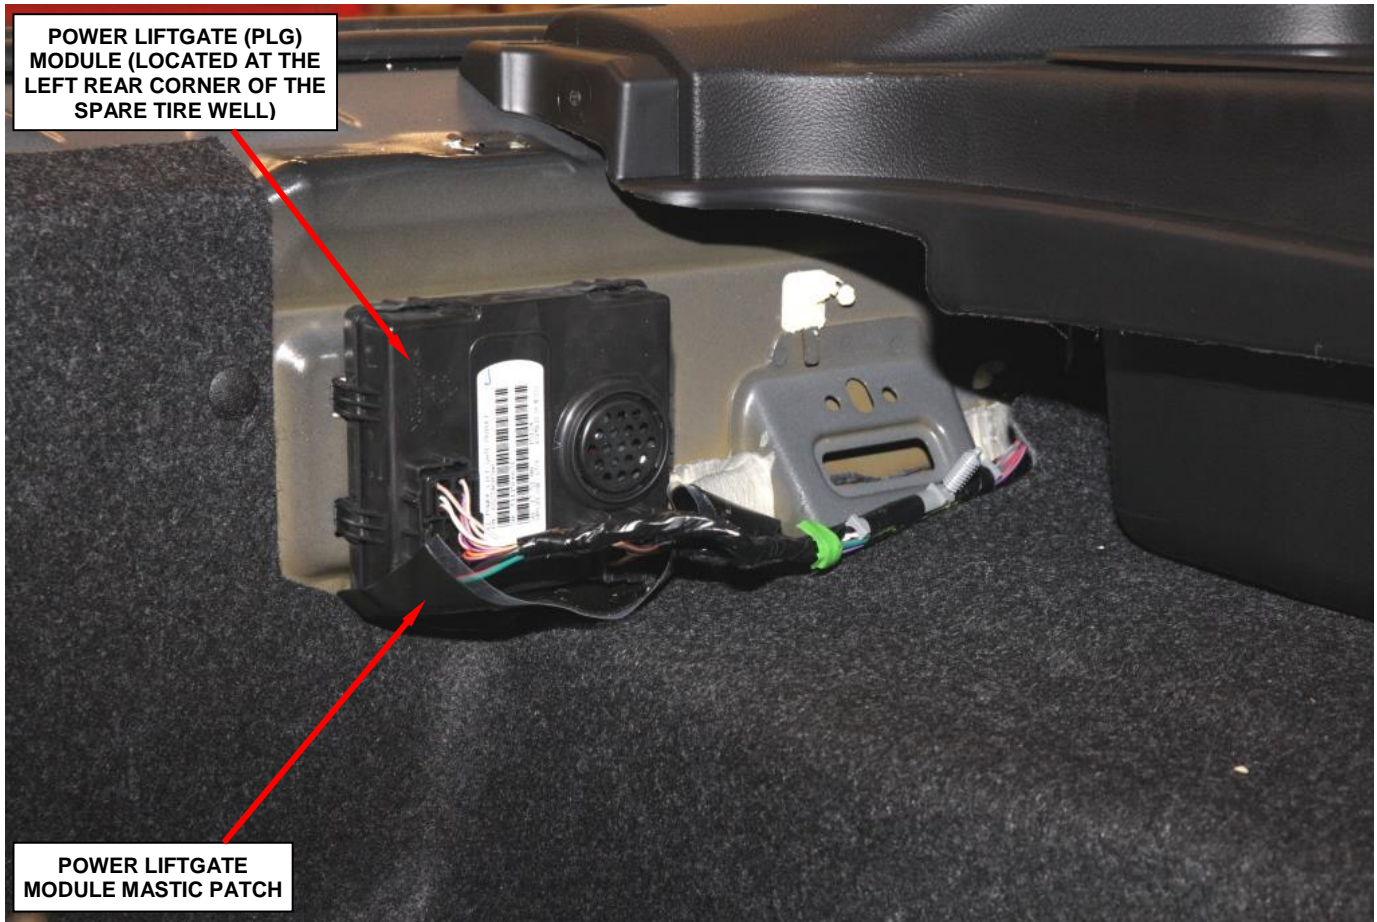

Figure 4 – Remove and Discard Mastic Patch from the PLG Module
10. Remove and discard the Power Liftgate Module (PLG) mastic patch(s) (Figure 4).